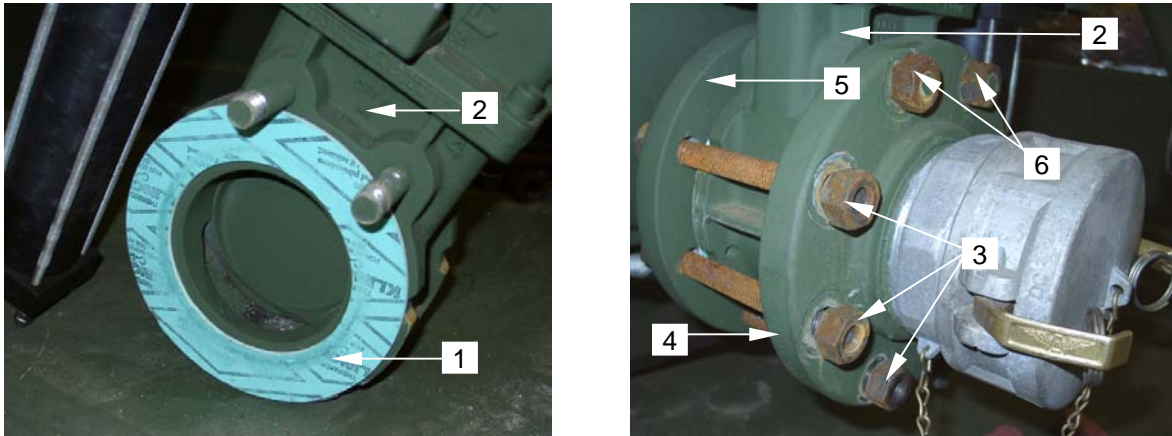

Figure 7. Installing Front Gasket and Flange
16. Place a new 4-inch gasket (**figure 7, item 1**) onto the drain valve (**figure 7, item 2**) as shown.
17. Install the six lower hex nuts and bolts (**figure 7, item 3**) securing front flange (**figure 7, item 4**) to the rear flange (**figure 7, item 5**).
18. Install upper two hex nuts and bolts (**figure 7, item 6**) securing front flange (**figure 7, item 4**) to the drain valve (**figure 7, item 2**).